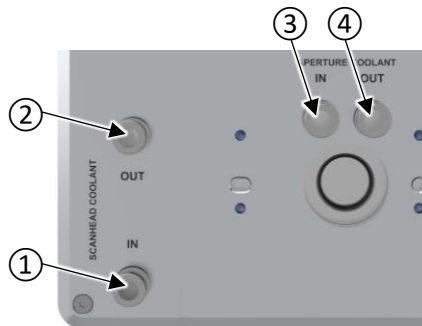

Figure 6: Position of the coolant supply and return connectors
1. Note the flow direction; see Figure 6 on page 31.
Legend to Figure 6